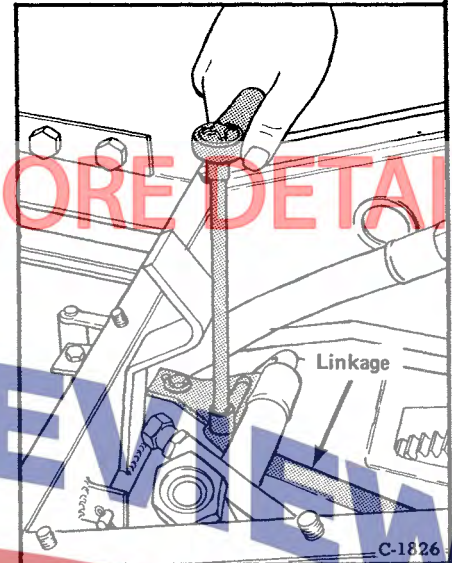

Fig. 3-5 Removing Front Motor Linkage
- (2) Remove bolts holding linkage to arm of front motor and bellcrank (Fig. 3-5).